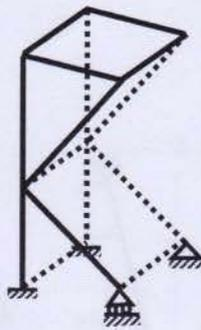
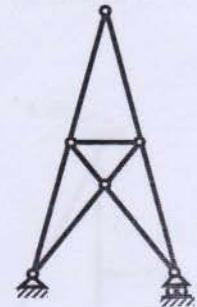

Fig. 8
Fig. 11
8. Determine the degree of kinematic indeterminacy (**doki**) and show the corresponding deflections and rotations of the 3D frame (Fig. 8) and 2D truss (Fig. 11) for the following cases